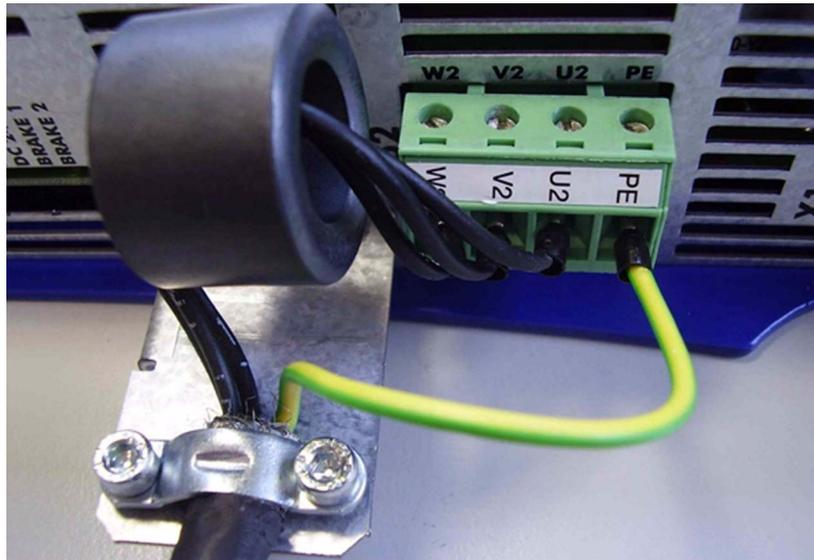

Fig.: 3: Shielding of screw terminals in conformity with the EMC standards
- It is important that shield and strain relief are highly conductive and directly connected to a grounded surface with the greatest possible surface area. When doing so, grounding must be implemented in a way that the unshielded portion of the cable is as short as possible (refer to fig. 3).
We recommend installing the enclosed ferrite core on the motor power supply cable as shown in figure 3.